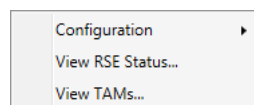

Figure 3-45 – RSE Context Menu
- **RSE Context Menu** (see Figure 3-45): This context menu provides the operator with options for RSE devices available by selecting an icon on the map.